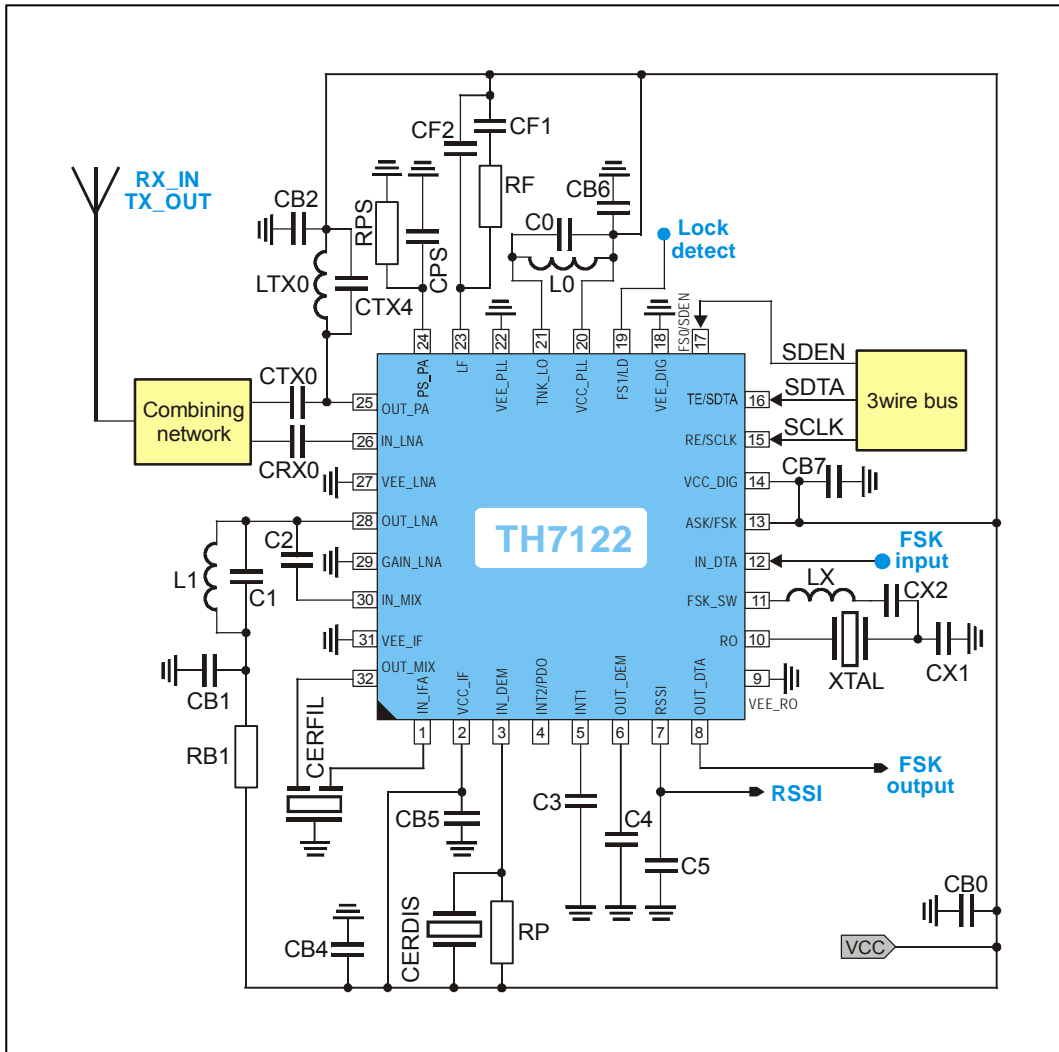
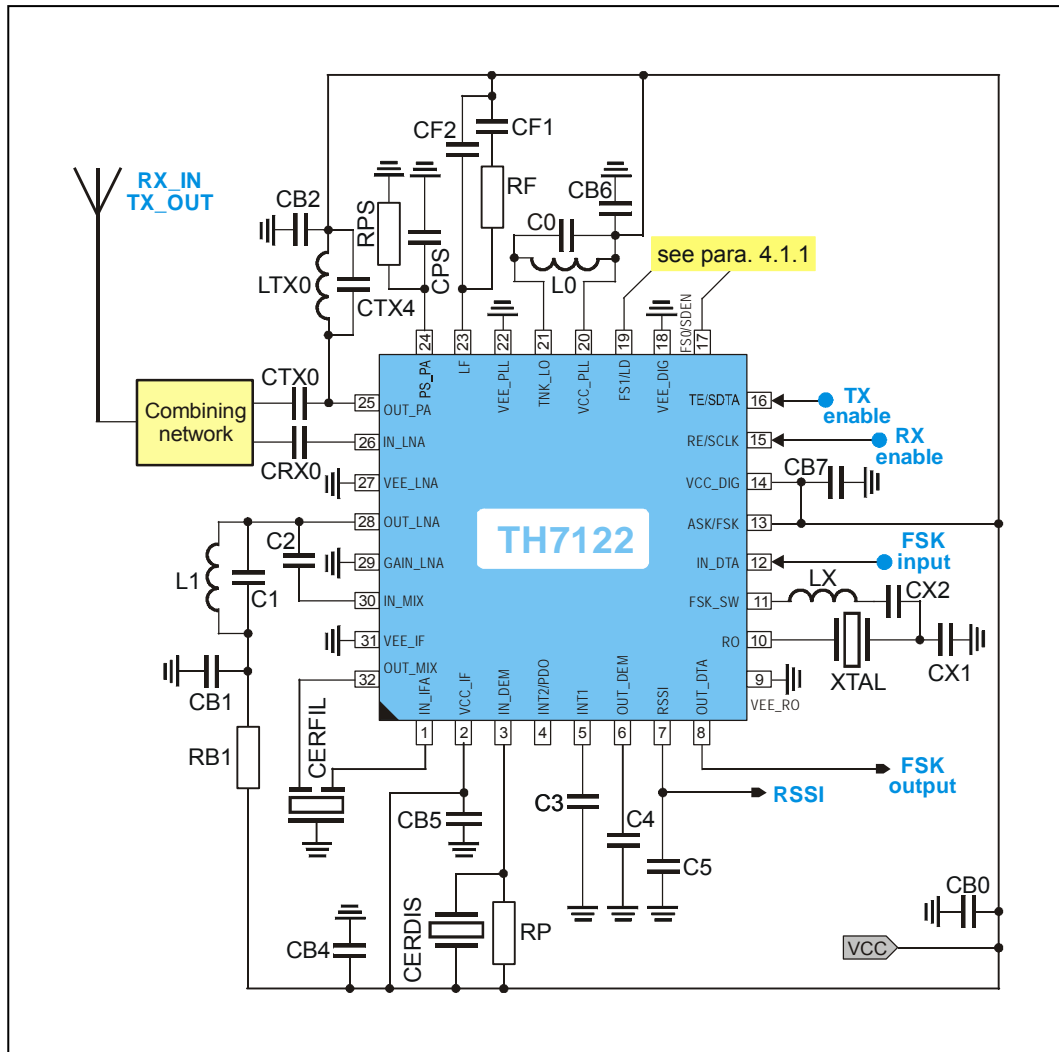

Fig. 14: Test circuit for FSK operation in Programmable User Mode (internal AFC option)
Fig. 15: Test circuit for FSK operation in Stand-alone User Mode
all parameters based on test circuits for FSK (Fig. 14 to 15) and ASK (Fig. 16 to 17), respectively;
7.3 FSK Test Circuit Component List (Fig. 14 and Fig. 15)